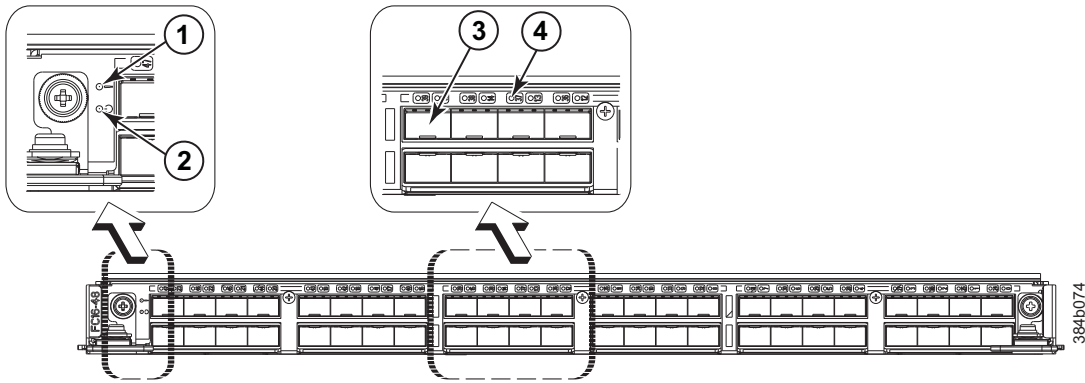

Figure 19. FC16-48 port blade
- Figure 19 on page 52 illustrates the FC16-48 port blade